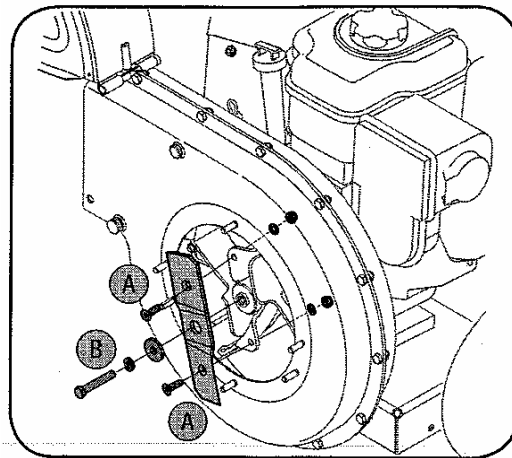

Figure 5-4
- f. Remove the hex bolt, lock washer, and flat washer to completely free shredder blade. See Figure 5-4.